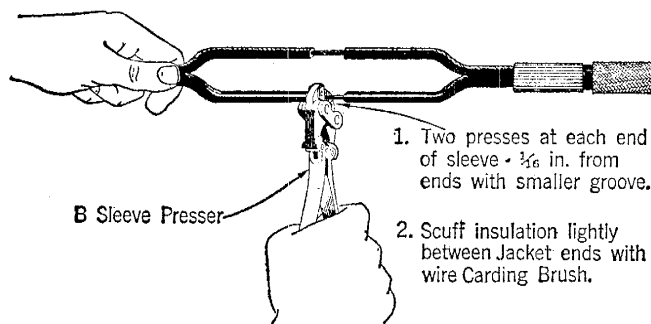

Fig. 7
3.03 Complete the splice by pressing the sleeves as shown in Fig. 7.